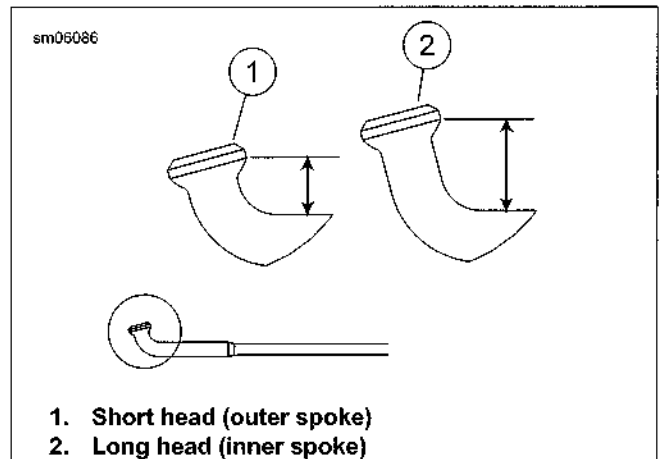
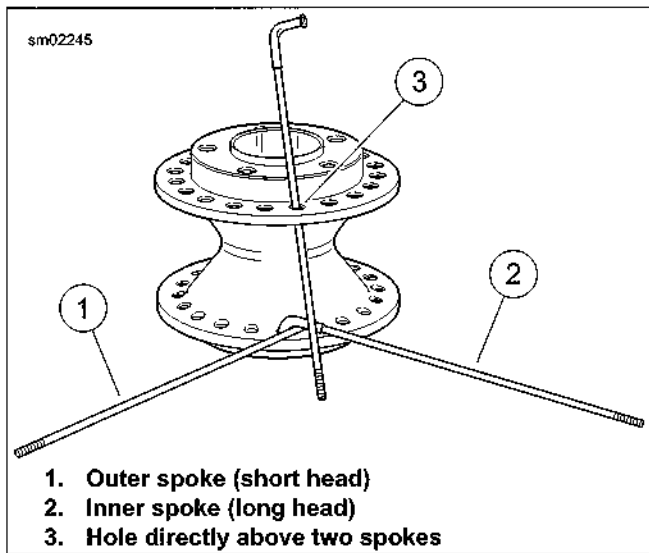
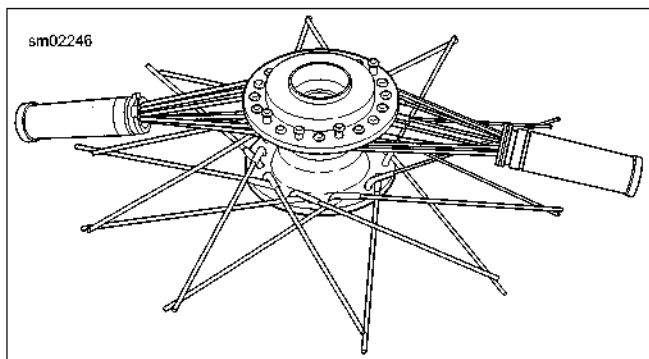

Figure 2-29. Spoke Heads
Figure 2-30. Lacing Single Row Wheel Hub
Figure 2-31. Bundling Top Spokes
- See Figure 2-30. The following procedure is valid for laced wheels that use a straight flange, single spoke hole circle hub regardless of rim style or diameter.
1. See Figure 2-29. Divide spokes into inner and outer groups.
- a. Inner spokes (2) have long heads.
- b. Outer spokes (1) have short heads.
- a. See Figure 2-30. Insert one outer spoke (1) (short head) into any bottom flange hole and swing it clockwise.
- b. Insert an inner spoke (2) (long head) in the next hole counterclockwise from the outer spoke.
5. Find the hole (3) in the upper flange directly above the first two spokes. Insert a long head inner spoke.
8. See Figure 2-31. Group all spokes on the upper flange into two bundles of equal numbers. Secure each group with throttle grips.